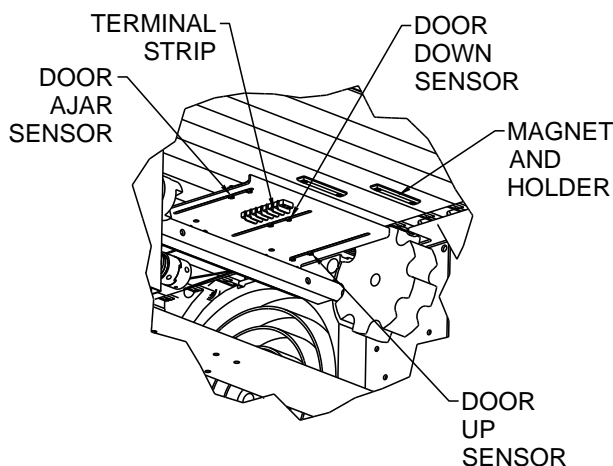

Fig. 8 – SENSOR LOCATIONS
- d) Note the gap between the bottom rail rubber bumper and curtain open stop. Adjust the **Door Up Sensor** (sensor closest to track, see *Fig. 8*) using 1/4" wrench. In some situations, the magnet and holder located on the bottom of the curtain slats may need to be moved over one slat and reinstalled with supplied 1/8" rivets.